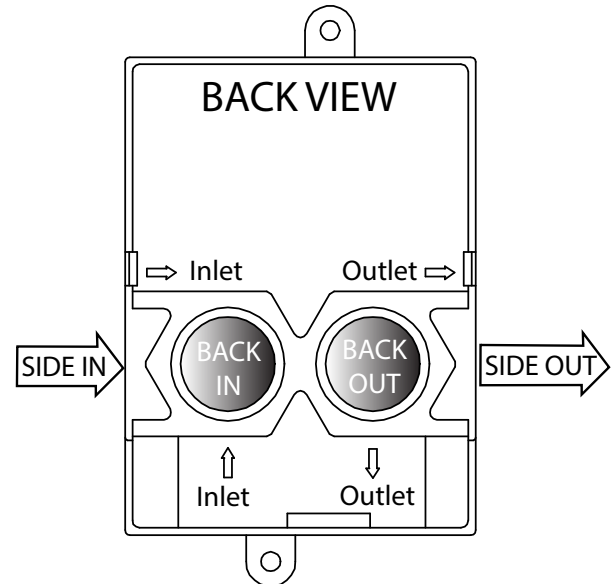
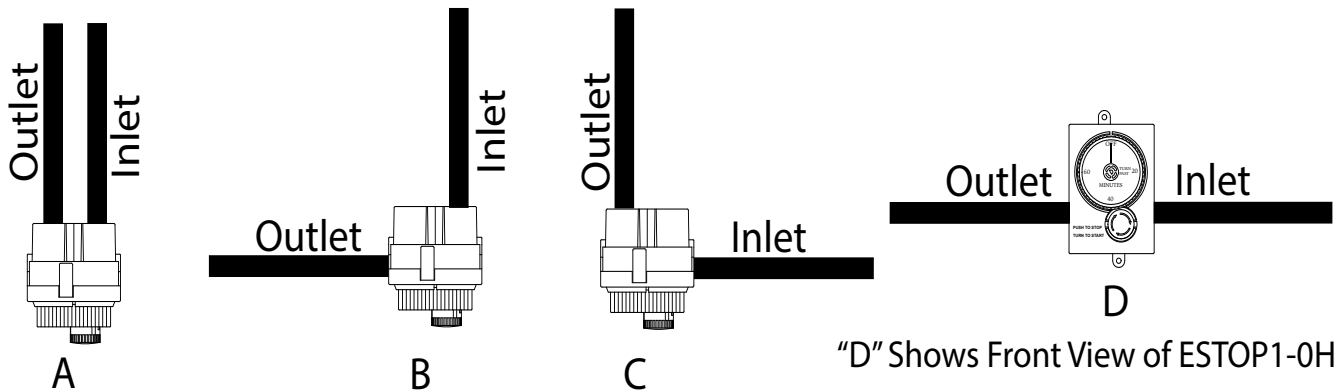
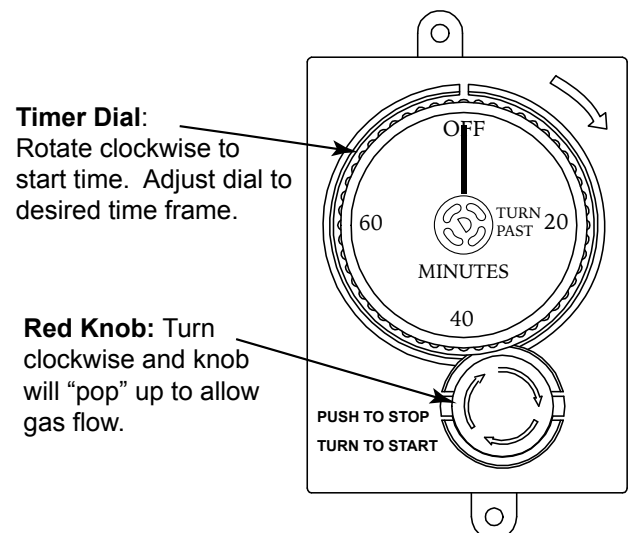
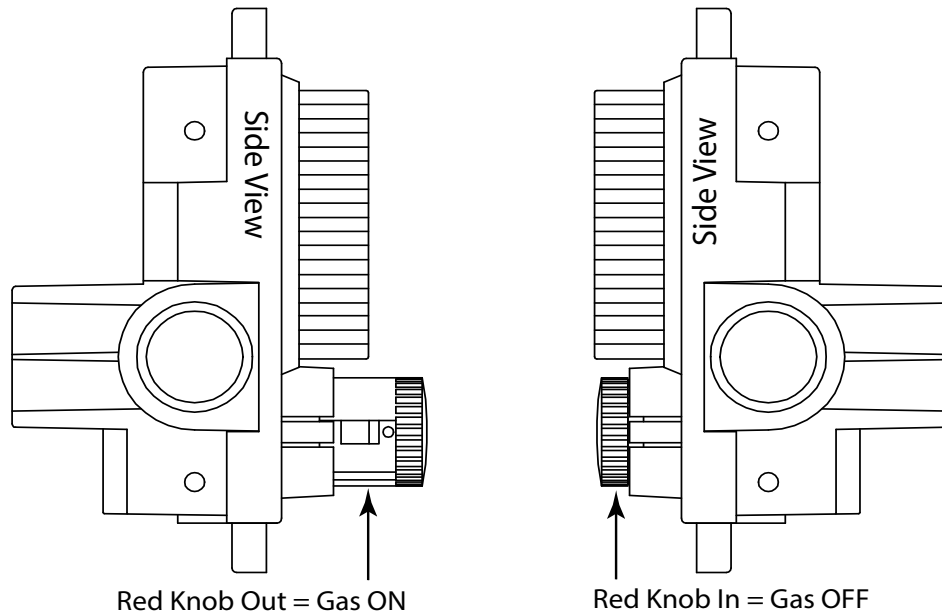

Fig. 2 Inlet and outlet connections.
Fig. 3 Plumbing options
Fig. 4 ESTOP1-0H operation.
Fig. 5 ESTOP1-0H Gas Timer red knob positions
The ESTOP1-0H is designed to be installed in an up-right position as shown in Fig 3, view "D" or Fig. 4. It has two (2) inlet and two (2) outlet gas connections. The diagrams below provide possible ways to plumb the timer (See Fig. 3). Two (2) ½" NPT plugs are provided with the timer. Plug the inlet and outlet connections not being used for the application. Connect gas supply to the inlet with the arrow  $\Rightarrow$  pointing into the valve. Connect outlet side to the gas appliance (See Figs. 2 & 3 for details).
**TO TURN OFF:** Let timer expire or simply press red knob inward until it stops. The red knob will lock down with a "click" and stop gas flow. See Fig. 4 and Fig. 5 on following page.